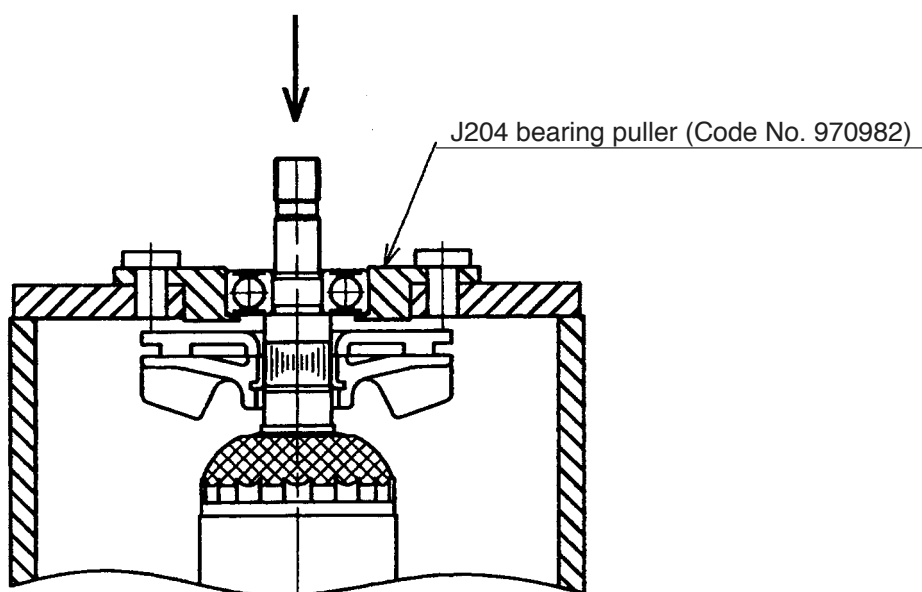

Fig. 5
(1) Disassembly of the armature (Fig. 5)
8. For the models indicated under Fig. 5, the Ball Bearing 629T12DDC3PS2-L **[9] <9>** can be removed from the Armature **[12] <12>** by utilizing a J-204 Bearing Puller (special repair tool, Code No. 970982) as illustrated. After the ball bearing has been removed, the Bearing Cover **[11] <11>** can be easily taken off.